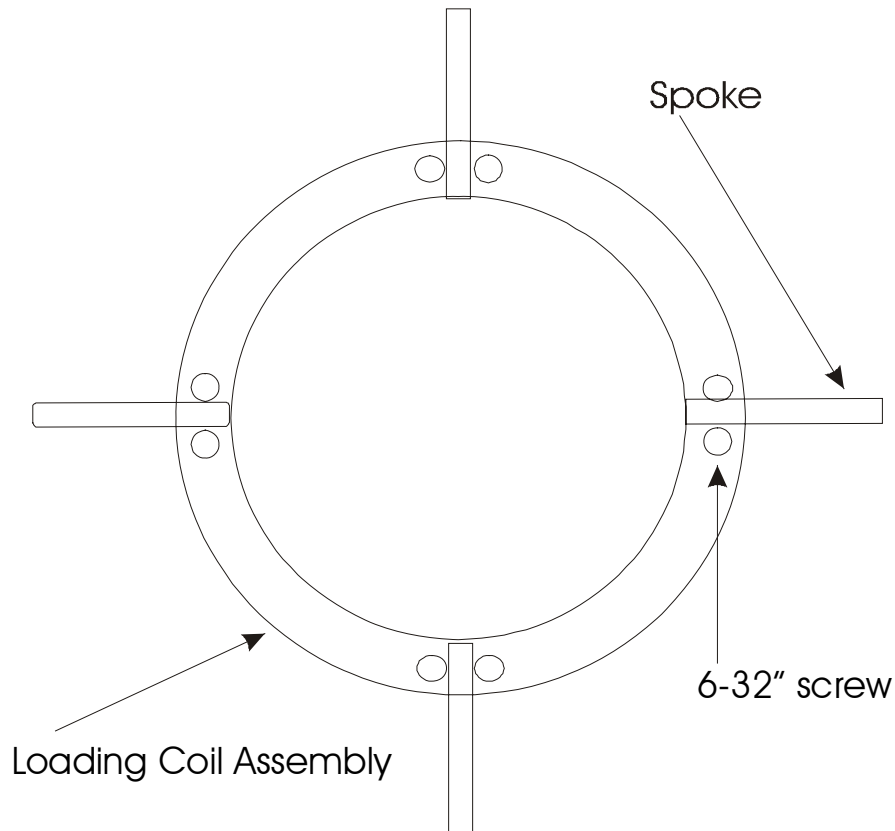
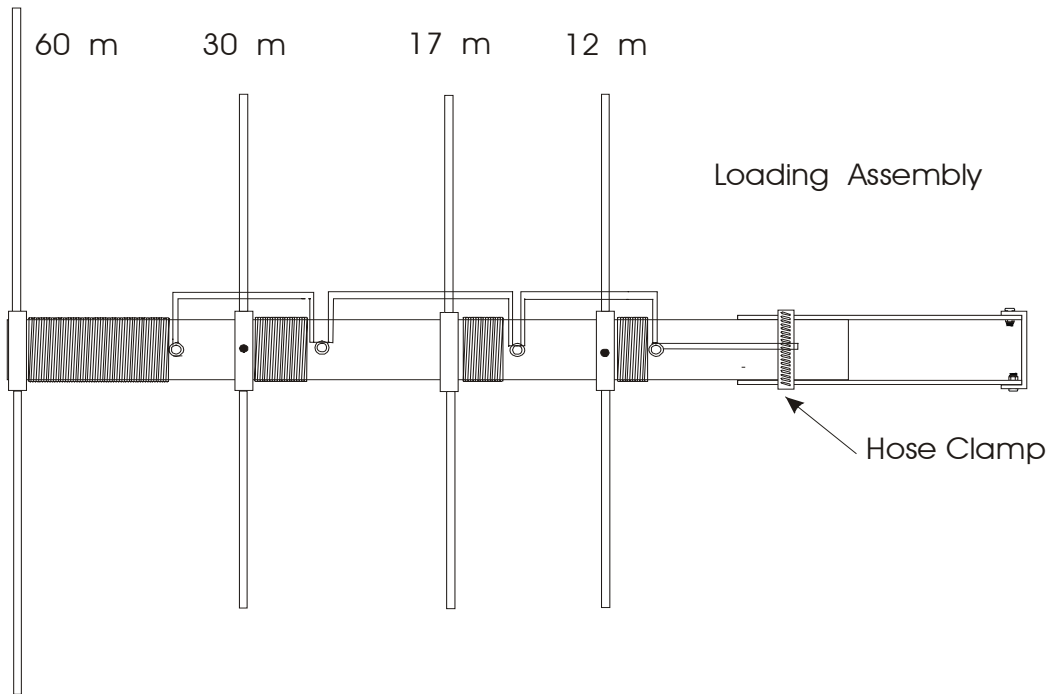

Figure 3
Figure 4
- [] 12. Install the short 6/32" screws in the rings of the loading coil assemblies and place a 6/32" nut on each screw. Place eight (8) of the 36" capacitance spokes into the eight holes on the top rings of the loading coil assembly (60M). Then, tighten the screws until the spokes are snug. Now you should be able to turn the coil assembly over and they should balance on the long spokes. See Figure 3 and Figure 4.
- [] **13.** Install four 36" capacitance spokes in the next sets of rings (30M). Again, tighten these spokes as was done in step 9. (See Figure 3 and Figure 4)
- [] **14.** Install four 21" capacitance spokes in the remaining two sets of rings (17/12M). Again, tighten these spokes as was done in step 9. (See Figure 3 and Figure 4)
- [] **15.** Slide a hose clamp over the top radiator. Mount the top coil assembly to the antenna by inserting the fiberglass insulator in the top radiator. Tighten the metal strap from the coil assembly under the hose clamp. See Figure 4.